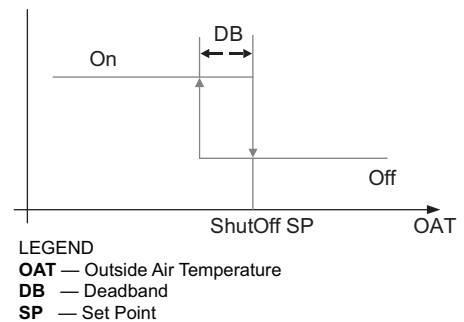

Fig. 50 — Hysteresis Settings
Hysteresis setting (DB) defaults to 2°F (–16.6°C). See Fig. 50.